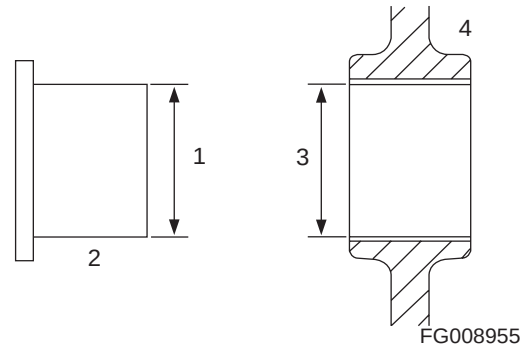

Figure 205
1. Measure the outside diameter (1, Figure 205) of the idler gear shaft (2, Figure 205). See "Idler Gear Shaft and Bushing" on page -97. for specifications.
2. Measure the inside diameter (3, Figure 205) of the idler gear bushing (4, Figure 205) See "Idler Gear Shaft and Bushing" on page -97. for specifications.